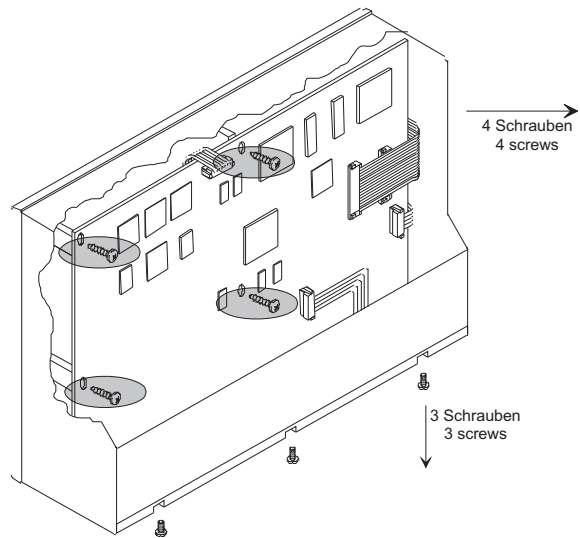

Fig. 8-3: Unscrew and removal of main pcb and connector panel
5. Take out the four screws fixing the main pcb. Remove the screws at the bottom of the SurroundMonitor which hold the connector panel in place. Carefully remove connector panel and main pcb. (Fig. 8-3)